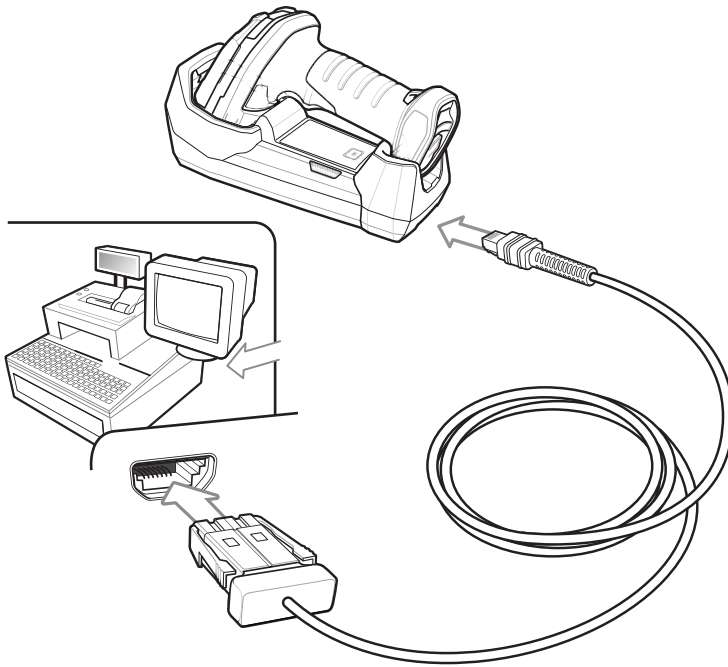

Figure 10-1 IBM Direct Connection to DS3678
- ✓ **NOTE** Interface cables vary depending on configuration. The connectors illustrated in Figure 10-1 are examples only. The connectors may be different from those illustrated, but the steps to connect the cradle remain the same.